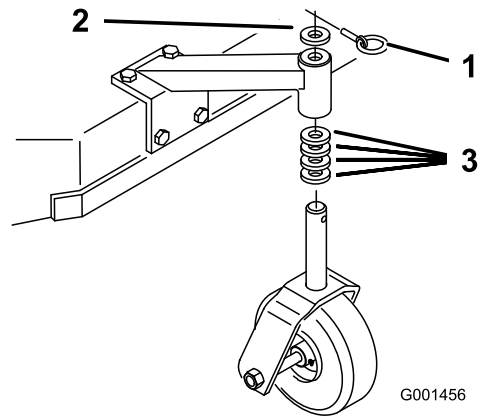

Figure 14
1. Using the Height-of-Cut Chart \(page 20\), adjust the caster spacers to match with the axle hole selected (Figure 14).
2. Remove the latch pin, slide the caster from the support, and change the spacers (Figure 14).
3. Install the caster in the support and insert the latch pin (Figure 14).